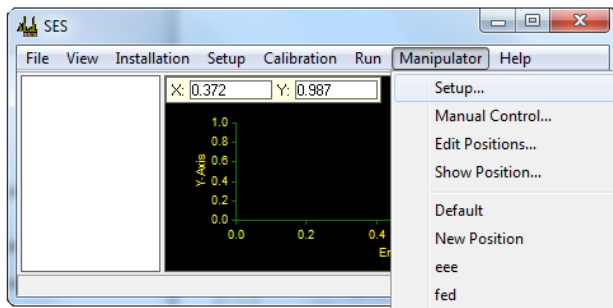
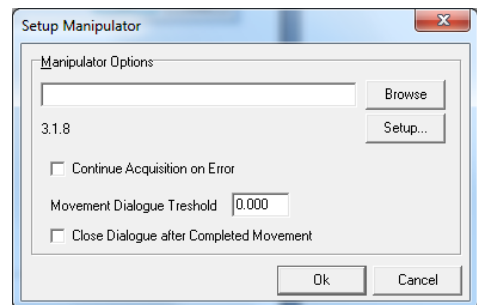

Fig. 5 SES application Manipulator Menu
Fig. 6 SES Application Manipulator Setup Window
2. After loading manipulator interface into SES menu, load manipulator functionality (if it wasn't previously changed), which is contained in the file libraries loaded dynamically. To do so user must go to the *Manipulator->Setup* (Fig. 5) menu. Window appears as shown in Figure 6. By clicking the *Browse* button user specify the path to the *Manupulator.dll* file (this file contains the functionality of the manipulator software). The file is located in the directory where user installed the manipulator software (default *c:\ProgramFiles\Prevac\Manipulator\ Manipulator.dll*).